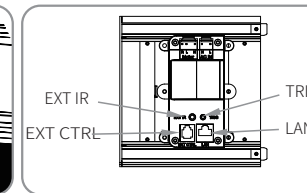
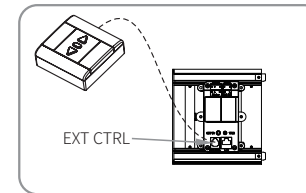
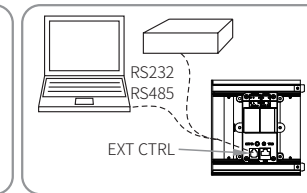
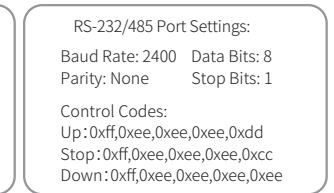

Figure 18
Figure 20
Figure 21
Figure 22
Connect the signal cable's RJ45 end to the "EXT CTRL" port on the left end cover (Figures 18–24). Use a wall switch, control system, or computer to control the screen's ascent, stop, and descent. The control interface layout is shown in Figure 20, and the cable wiring is in Figure 21.
3. Low-Voltage Dry Contact Wall Switch (Optional) (Figure 20)
Connect the "EXT CTRL" port to a computer or control system's RS-232/485 port (Figure 21). Send commands to control the screen (Figure 22).